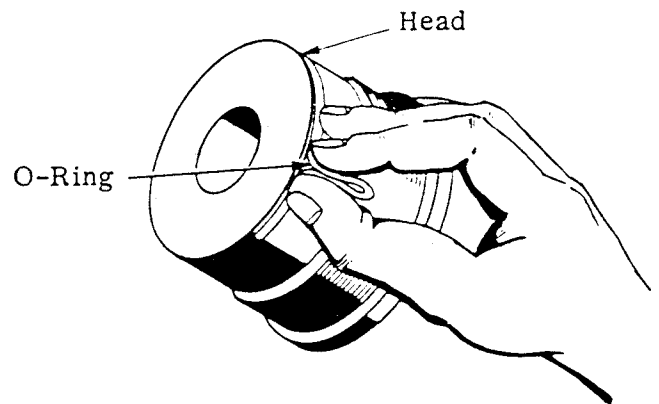

**Figure E-1. Securing Cylinder**
3. Slip a pin through the pin-boss and clamp the pin in a vise (Figure E-1).